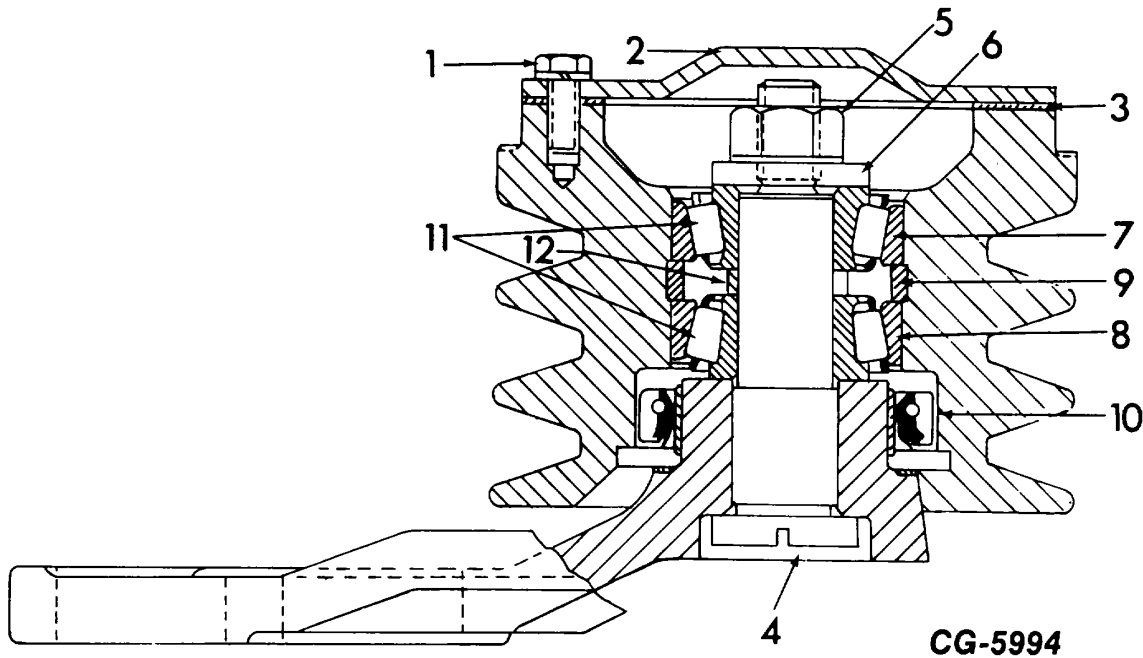

Figure 28. - Fan Idler Pulley Assembly (If Applicable)
1. Remove screws (1, Fig. 28), cover (2) and gasket (3).
2. Hold the shaft (4) securely and remove nut (5) and washer (6).
3. Lift the pulley with bearing cups (7 and 8), spacer (9) and oil seal (10) off the shaft. The outer bearing cone (11) will come off with the pulley.
4. Remove the inner bearing cone (11) and spacer (12) from the shaft as shown.